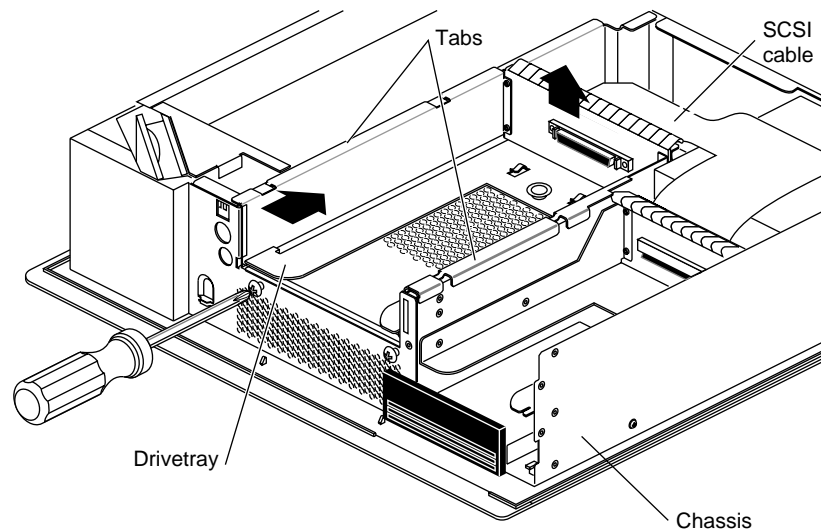

Figure 3-23 Removing the 5-1/4" Drive Tray
7. Push the drive tray assembly backward, and pull up to remove it, as shown in Figure 3-23.